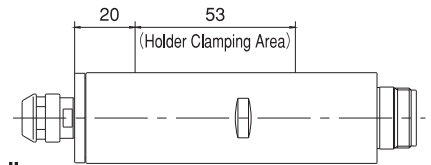

Fig.6
- ① When mounting the spindle avoid the area where bearings are located, refer to the clamping area drawing in Fig.6. If the spindle is mounted inappropriately, this will cause damage to the spindle. Be sure to keep to the following Cautions; “Caution about tightening the bolt” and “Caution about bushing type Holder”.